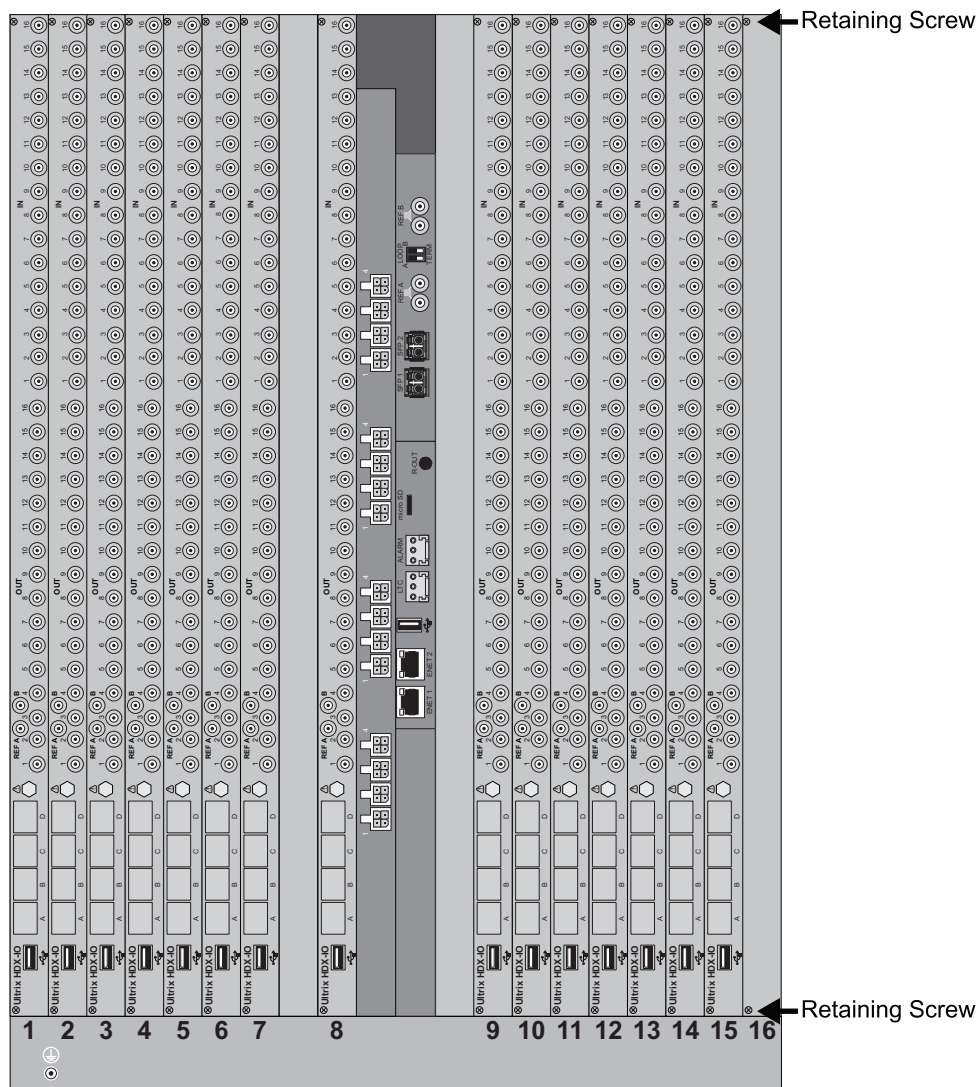

Figure 8 ULTRIX-FR12 Rear Panel — Retaining Screw Locations on a Blank Plate
2. Disengage the captive retaining screws on either end of the blank plate In **Figure 8**, the user is removing the blank plate in slot 16.